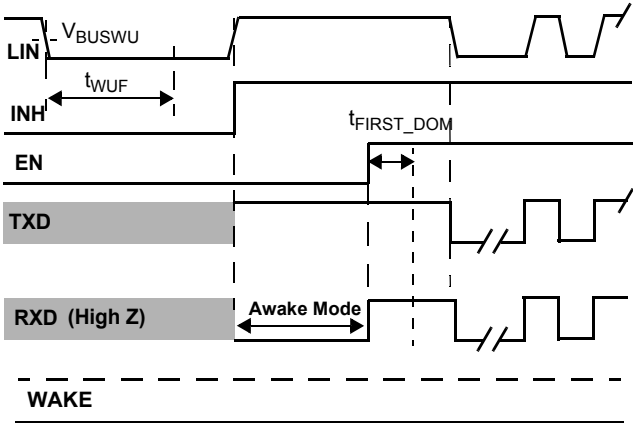
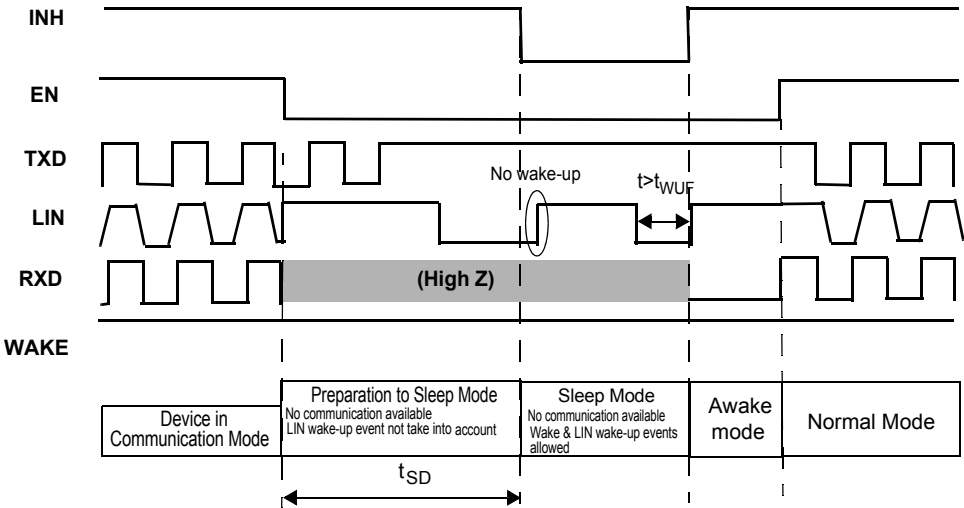

Figure 16. LIN Bus Wake-up with TXD High
Figure 20. LIN Bus Wake-up with LIN bus in Dominant During the Preparation to Sleep Mode
26. See Figure 16, 19, and Figure 20.